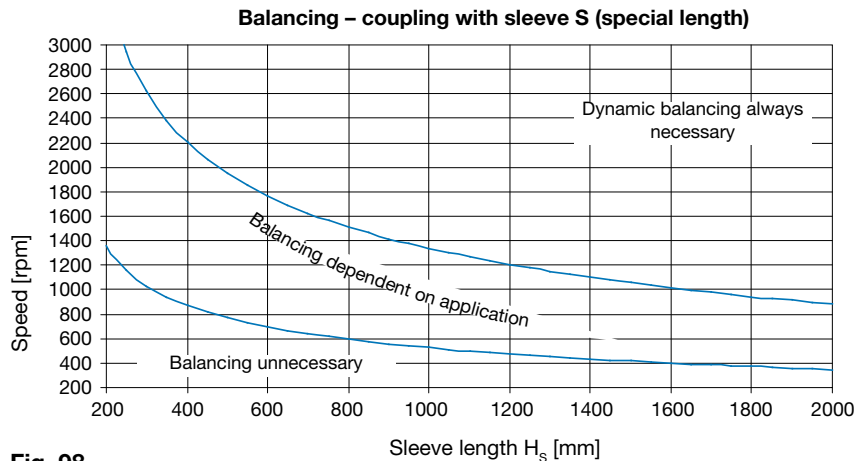

Fig. 98
- Length of special sleeve (Fig. 98)